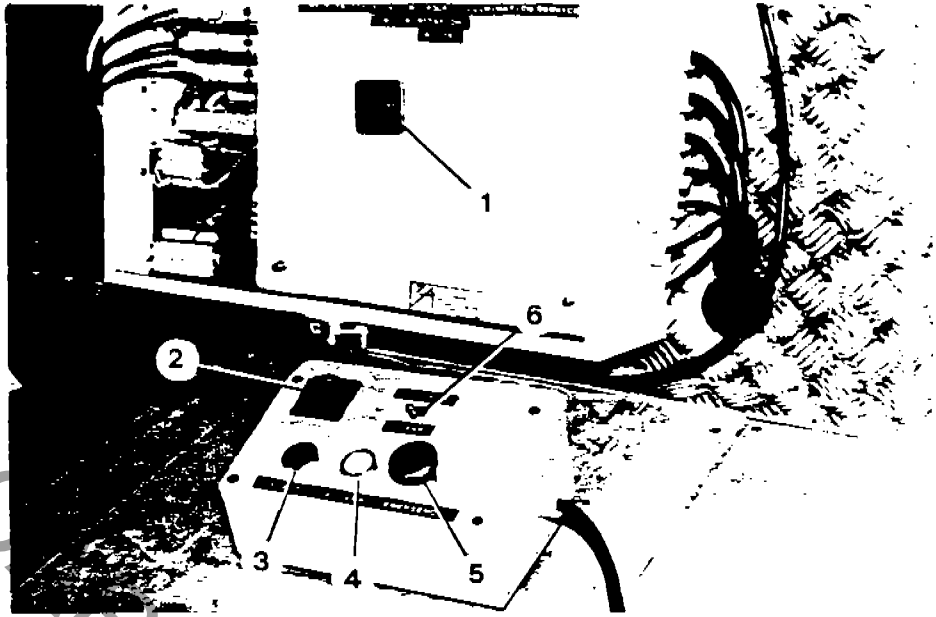

Fig. 1
1.0 - CONTROLS (Fig. 1)
1.0 - COMANDI (Fig. 1)